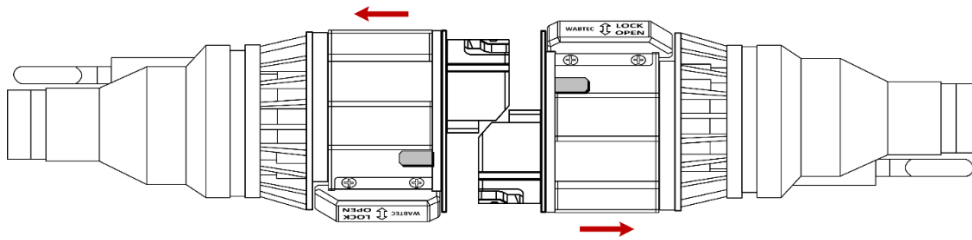

Figure 30: Connectors Unmated
3. Pull the Inline Connectors in opposite directions to detach them as shown by the arrows in Figure 30.